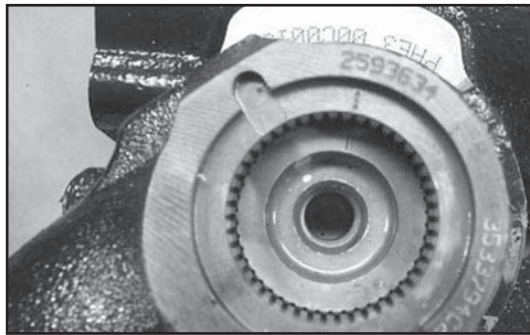

Figure 4. Aligned Timing Marks.
- a. Install the arm onto the sector shaft, taking care to align the timing marks (Figure 4).